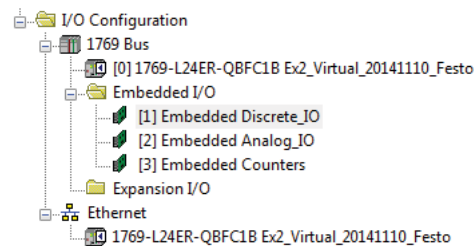

Figure 96. I/O configuration.
- In the *Controller Organizer* window, expand the *I/O Configuration* to reveal how the controller is organized (Figure 96).